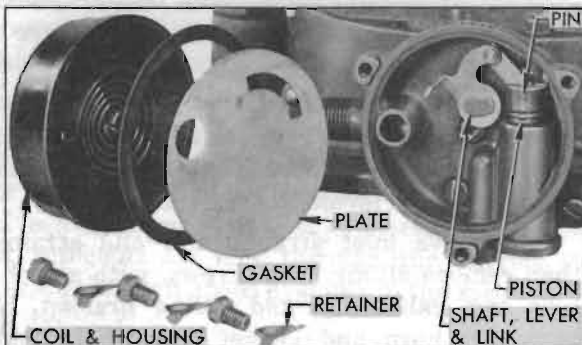

Figure 3-49—Climatic Control Parts
11. File burrs from staked ends of choke valve screws and remove choke valve. Rotate choke shaft to disengage piston from its cylinder, then remove shaft and piston. Remove piston pin and piston from link. See figure 3-49.
19. Connect choke piston to shaft link with piston pin, install shaft in air horn, and guide piston into cylinder. See figure 3-49.